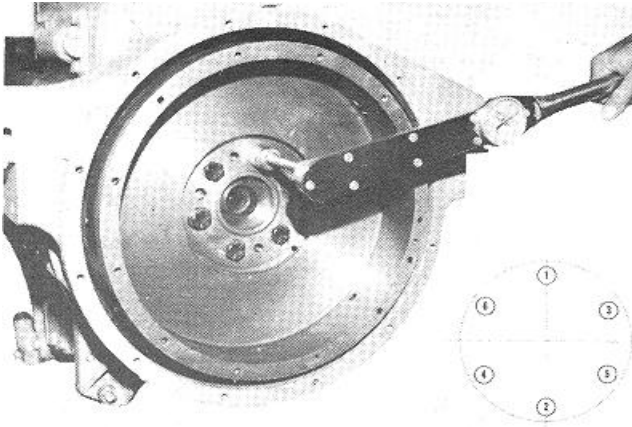

Fig. 14-59 (N11451). Tightening Sequence For The Flywheel Capscrews.
- Use the sequence shown in Fig. 14-59 and tighten the capscrews until the flywheel is flat against the crankshaft flange.